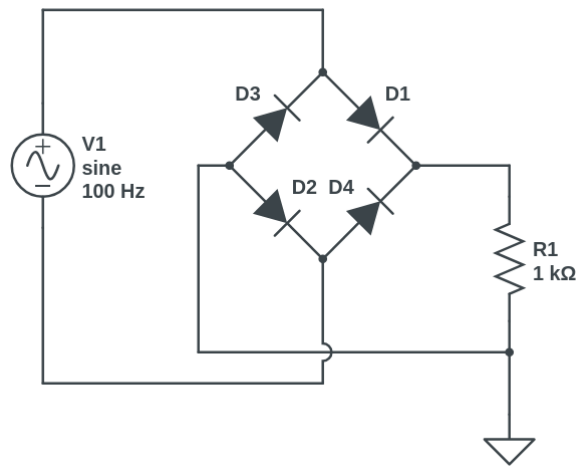

Figure 12: Full-wave bridge rectifier
A full-wave bridge rectifier goes one step further and flips the negative cycles of the AC source and make them positive. The bridge rectifier uses 4 diodes arranged such that current will flow through the resistor load during the positive and negative cycle of the AC source. Consider the circuit in Figure 12, during the positive cycle current will only flow through diodes D1 and D2. During the negative cycle only the other two diodes, D3 and D4, will conduct. The resultant current through the resistor, R1, will always flow in one direction.
2. Build the circuit from Figure 12.